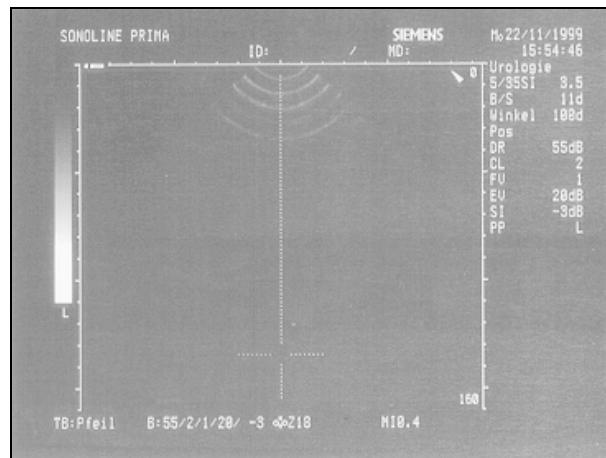

Fig. 3
- When a or probe is selected, the following cross (Fig. 3) is displayed.